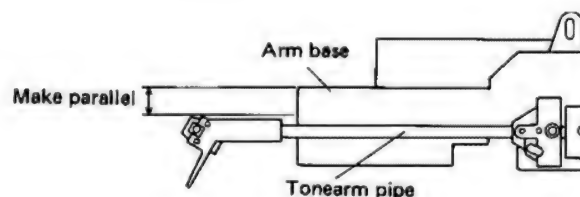

Fig. 5-13 PU Plate Mounting 1
To mount the PU plate ass'y push the tonearm pivot shaft right back and tighten it in that position with the AS spring sandwiched between the arm base and PU plate, and with the tonearm pipe parallel with the arm base. And in addition to centering the rotating position of the adjustment cam, make sure that section (B) of the PU plate ass'y is fixed in a position so as to reach the 30 cm lowering position of the index cam. (See figs. 5-13 and 5-14).